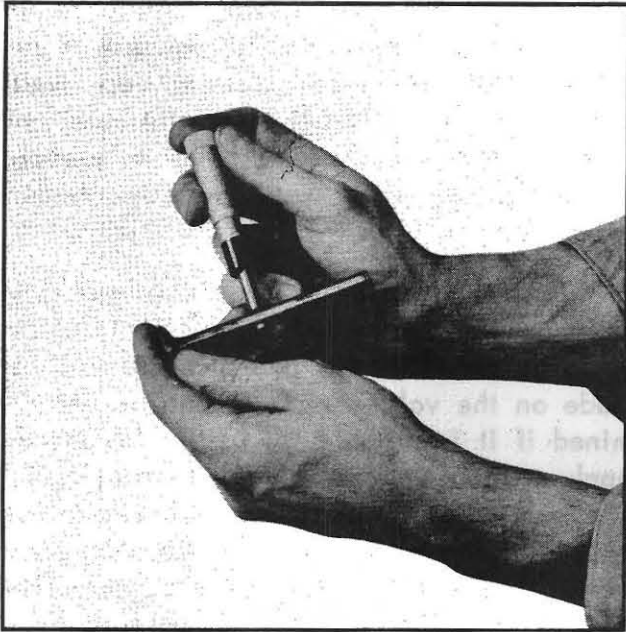

Fig. 20
1. Measure the diameter of the stem at several locations along the shiny guide bearing area with a micrometer, as shown in Fig. 20. If the measurement is more than .001 in. below that of a new valve stem (.3141 intake and .3124 exhaust), it should be discarded, as the valve must be a sloppy fit in the guide.